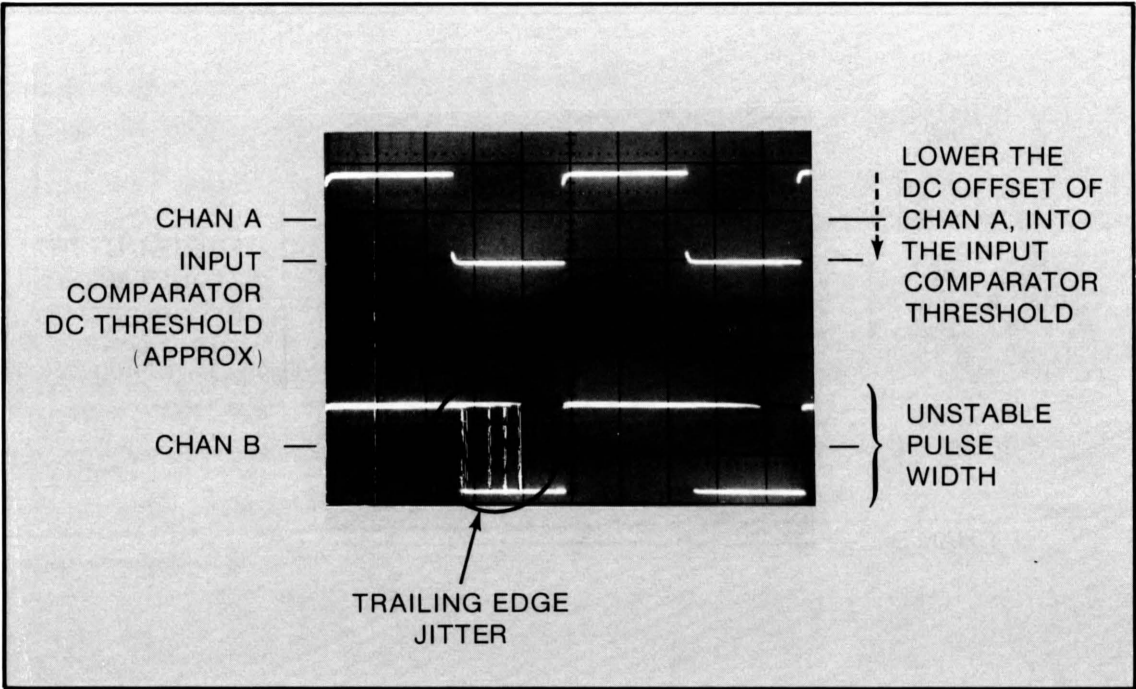

Figure 5-3. Under Compensated
- d. Begin with the Pulse Generator OFFSET VERNIER set to the fully positive offset position. Using the OFFSET VERNIER, slowly lower the dc offset of the input signal until the comparator output on the oscilloscope Channel B “just” begins to trigger. This is indicated by a likeness of the input squarewave on the oscilloscope Channel A, appearing on Channel B. The Channel A POSN control should be readjusted as necessary, to return the input waveform to the oscilloscope display. Readjust the OFFSET VERNIER slightly positive until the comparator output, on Channel B, intermittently triggers, displaying trailing edge jitter as shown in Figure 5-3.